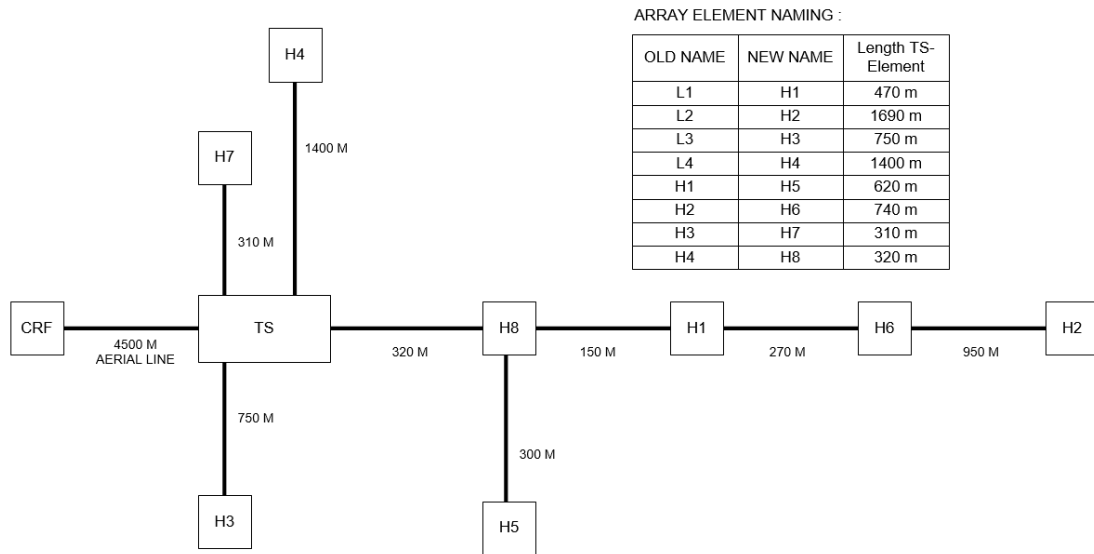

Fig. 2: Required cable lengths of the new electric installation used for the calculation of the voltage drop and to determine the minimum wire cross sections
- Cables between the array elements and the new CRF location shall be replaced following the minimal cross-sections shown in Figure 2 and Table 1 below. Since cable connections between the CRF and the elements with lengths of several hundreds of meters are vulnerable to lightning strikes, either direct to the cable or nearby the cable route, Type 1 surge protection (SPD) shall be installed at both ends (CRF and element) entry of the cable. The new cables shall be armored and suitable for direct trench installation.